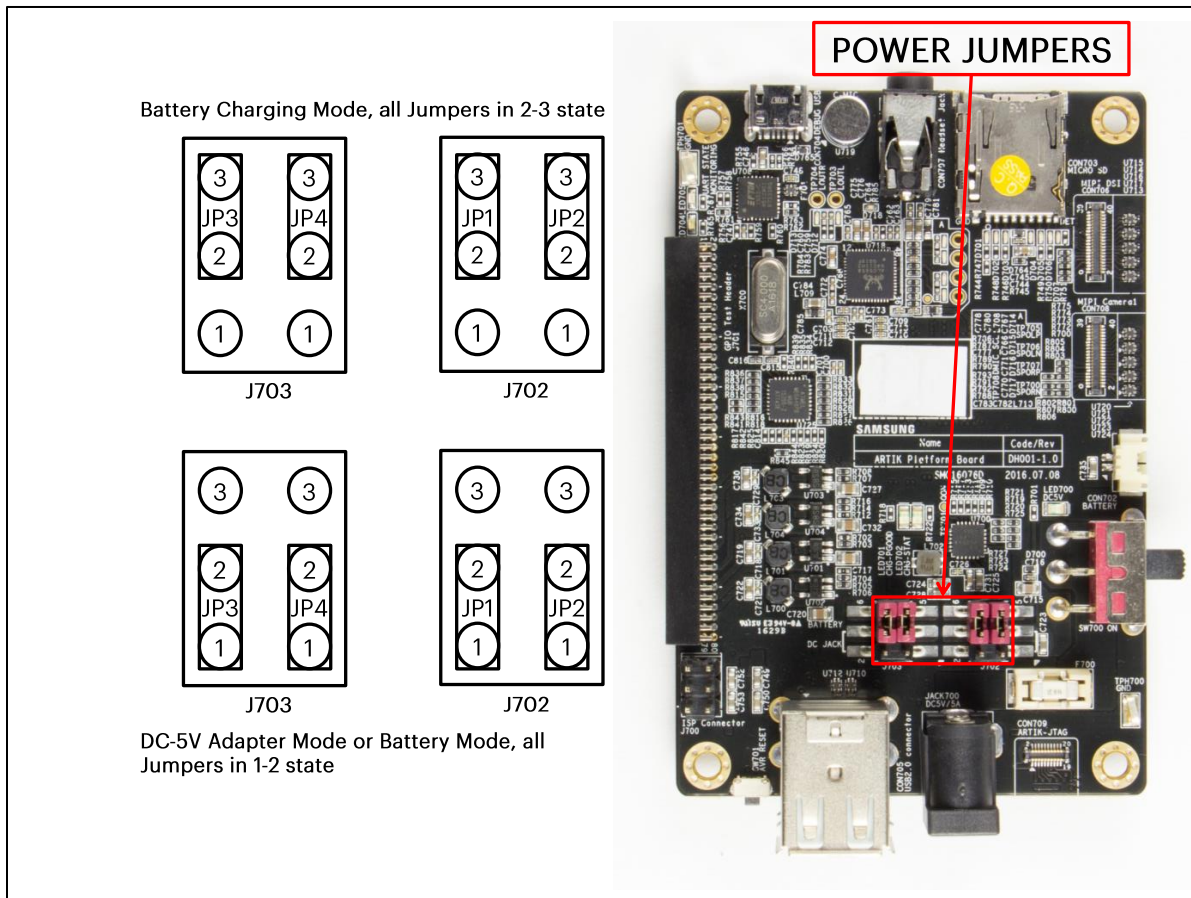

Figure 13. Jumper Interface locations JP1-JP4 on Connectors J702, J703 of the Platform Board
*Figure 13* shows the default settings and how to switch between the settings. When the ARTIK 530 Development Board is used with an external power adapter make certain that you use a 5V-5A adapter with a 2.1x5.5mm plug.